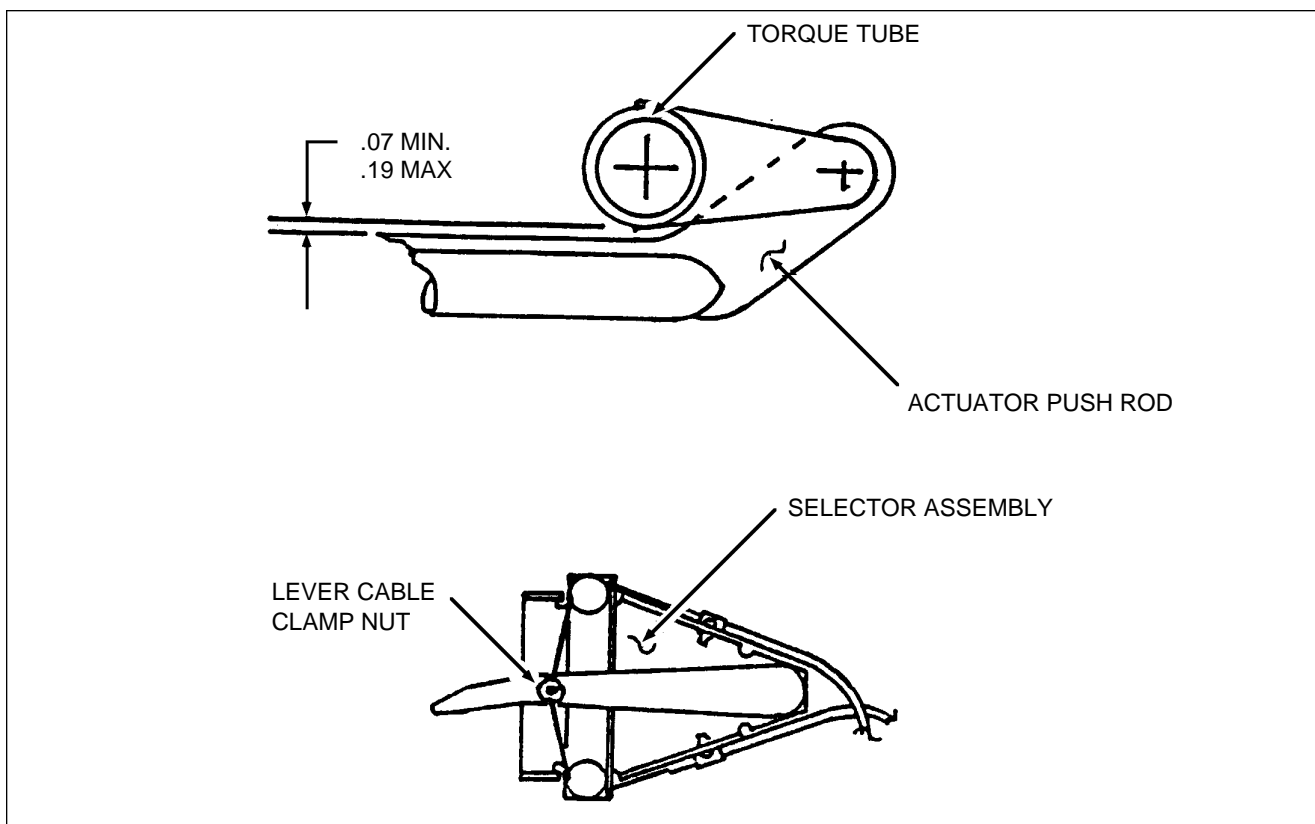

Figure 27-23. Rigging of Electric Flap Controls
- 1 Loosen lever cable clamp nut so that cable can move freely through cable clamp. Secure lever in the full down position. (Refer to Figure 27-23).
- 2 Position the swash plate assembly on torque tube and secure inplace. (Refer to Figure 27-23.)
- 4 Tighten lever cable lamp nut so that cable is compressed to 1/2 its full diameter. (Refer to Figure 27-23.)
Ensure that the switch rollers are in the cam “null point” as shown in Figure 27-23 and not 180 degrees off.
10. Move the selector lever to the full UP position and verify that clearance between the actuator pushrod and torque tube is 0.07 inches minimum, 0.19 inches maximum. (Refer to Figure 27-23.)